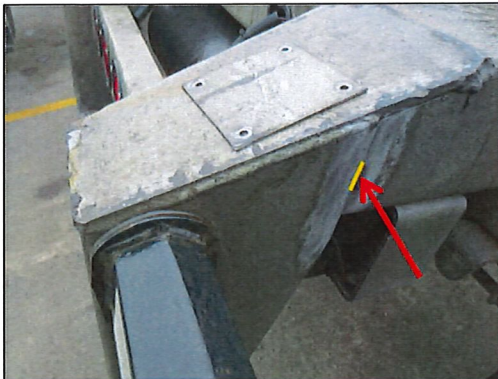

Figure 3A
- If the unit exhibits a vertical crack, a 1/2" long weld section must be applied to hold the Counterbalance assembly in position while removing the Top Plate. (Fig 3A)